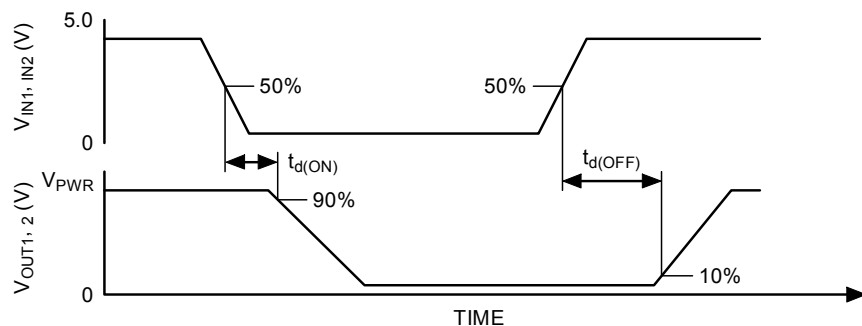

Figure 4. Output Delay Time
22. Output Delay is the time duration from the midpoint of the IN1 or IN2 input signal to the 10% or 90% point (dependent on the transition direction) of the OUT1 or OUT2 signal. If the output is transitioning High-to-Low, the delay is from the midpoint of the input signal to the 90% point of the output response signal. If the output is transitioning Low-to-High, the delay is from the midpoint of the input signal to the 10% point of the output response signal. See Figure 4, page 8.